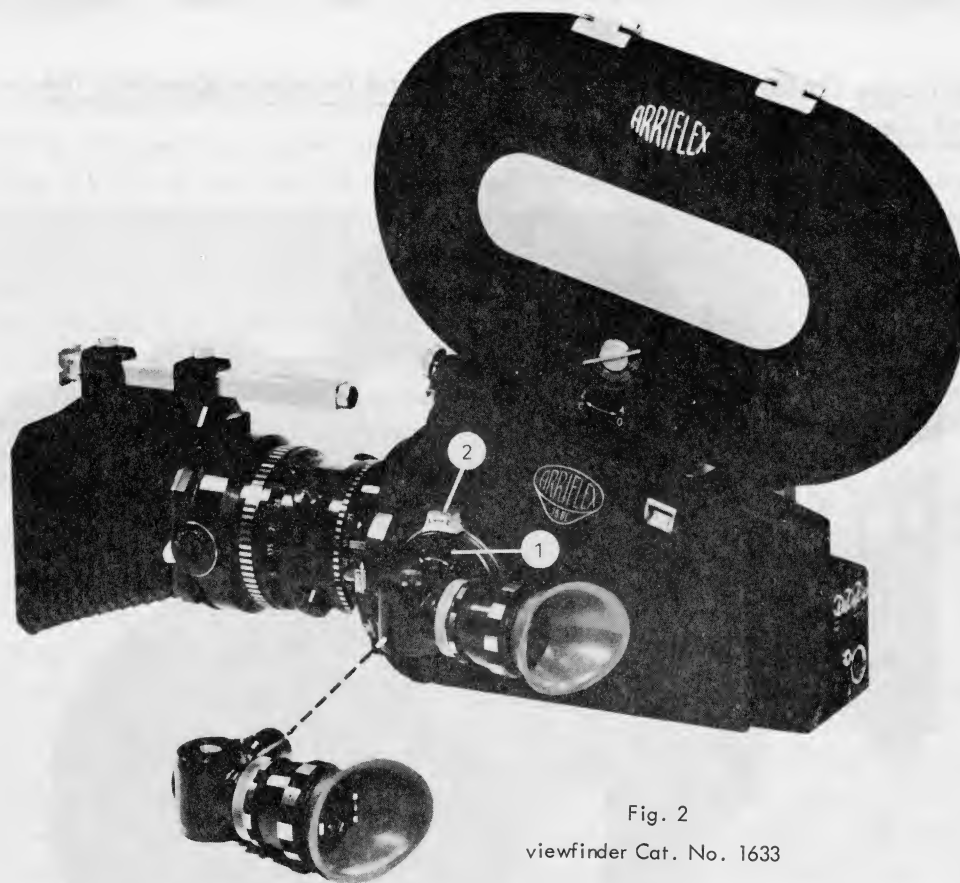

Fig. 2
1. Universal Lens Blimp, Fig. 2, with the three clamping lugs (Fig. 2/1) in the three grooves on the camera (as for zoom lens), then turn to right until the lens blimp engages the latch (Fig. 2/2). The matte box is mounted exactly as on zoom lenses.
To change the viewfinder, the black knurled ring (Fig. 2/1) is turned anti-clockwise as far as it will go. The finder can then be removed with a slight